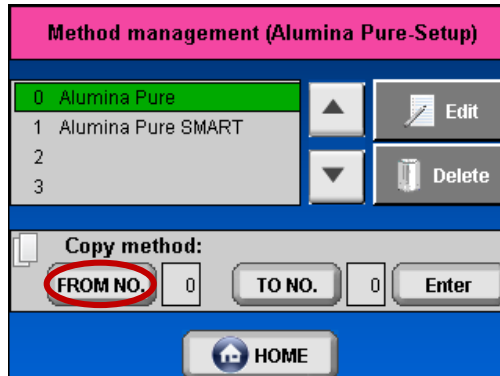

Figure 39: From location.
2. Press “FROM NO.” button – Figure 39.